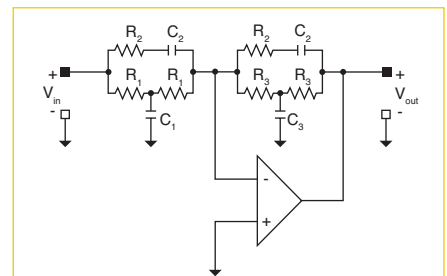
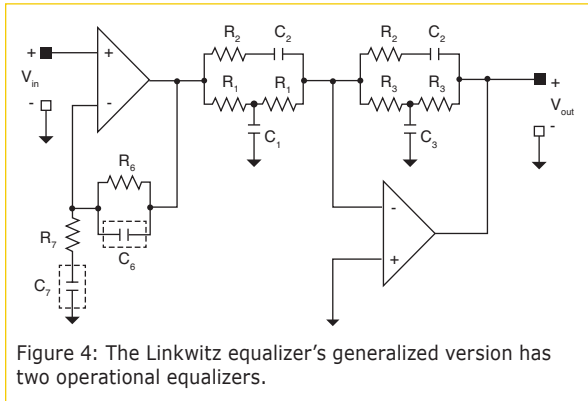

Figure 3: The Linkwitz equalizer implements the transfer function (6).
Figure 4: The Linkwitz equalizer's generalized version has two operational equalizers.
Figure 3 shows a very classical network that implements the transfer function (7), beside a “-” sign, which corresponds to the polarity inversion in the loudspeaker wires, and can then be easily compensated (if required) by a further inversion of the loudspeaker polarity.
The component values of the network in **Figure 3** can be calculated by choosing a convenient value for the capacitor
This means the circuit shown in **Figure 3** is not always realizable. Rather, it requires that natural and equalized parameters fall within the limits (13a) or (13b).
Hence, the “Red case” is not possible to implement with the Linkwitz equalizer, although its parameters are not that much different from the ones of the safe “Green case.” Furthermore, the network shown in **Figure 3** needs
an input buffer, because it is sensitive to the driving source's impedance and because its input impedance is typically low and frequency depending in the order of a few hundred ohms, see the value of R_2 as obtained from the first (Green) case. In other words, the response of the network in **Figure 3** coincides with the function (7) only considering the voltage effectively applied to its input, and not just the nominal output of the source. The two values are reasonably equal only if a buffer with high input impedance, low output impedance, and flat gain over the frequency is placed between the source and the network of **Figure 3**.
Figure 4 shows my proposed solution for the two limitations of the Linkwitz equalizer. The circuit has two operational amplifiers instead of one. Its input (output) impedance is ideally infinite (zero), and presents a frequency response virtually independent from the load conditions, unless the current driving requirements do not exceed the capabilities of the used operational amplifiers.
When one of the two conditions (13a) or (13b) is fulfilled, then $R_6 = 0 \Omega$ (or short-circuited), R_5 , C_5 , and C_6 are not in place, and R_1 , R_2 , R_3 , C_1 , and C_3 are computed with the formulas (8-12). The circuit in **Figure 4** simplifies into the one in **Figure 3**, with the addition
The first-order function (14) is much simpler than the second-order one (7). The latter is implemented with the frequency-depending buffer shown in **Figure 4**, realized with the first operational amplifier and the components R_5 , R_6 , C_5 , and C_6 . The relative component values can be calculated through the formula listed in **Table 3**.
The remaining components of the network in **Figure 4**, can be computed by assuming a convenient value for C_2 , through the expressions:
Table 3: These are component values for the additional first-order equalizer of Figure 4.